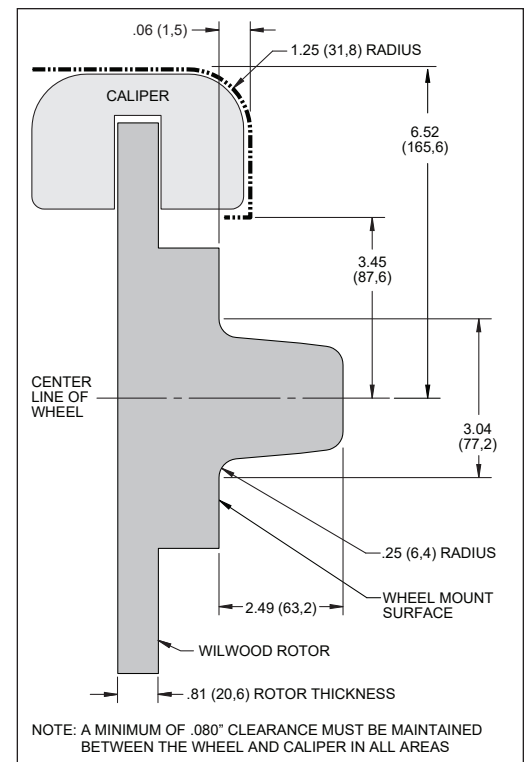

Figure 2. Wheel Clearance Diagram
- Review the Wheel Clearance Diagram (Figure 2, page 3) to verify that there is adequate clearance with the wheels you will be using with the installation.
- Verify wheel clearance utilizing Figure 2.
- CAUTION:** To prevent damage to the hub face, a 6.15" diameter x .09" thick hub shield (item 24) should be used with any stamped steel wheels that do NOT overhang the outside diameter of the hub face.